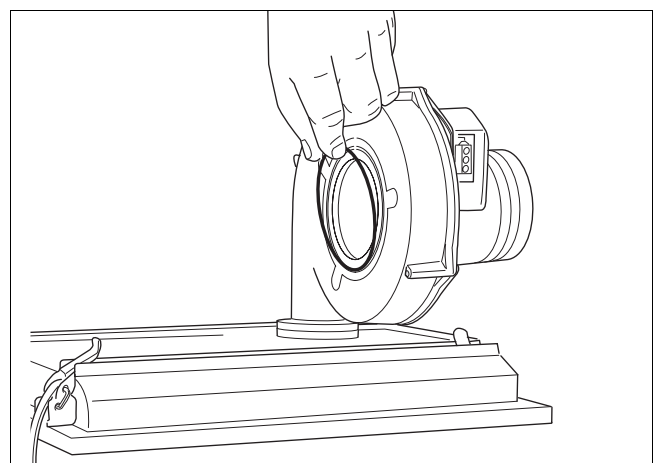

fig. 9 Placing a new O-ring on the fan unit
- Install the venturi and gas valve on the fan unit using a new O-ring (fig. 9) and follow the instructions above in reverse order.